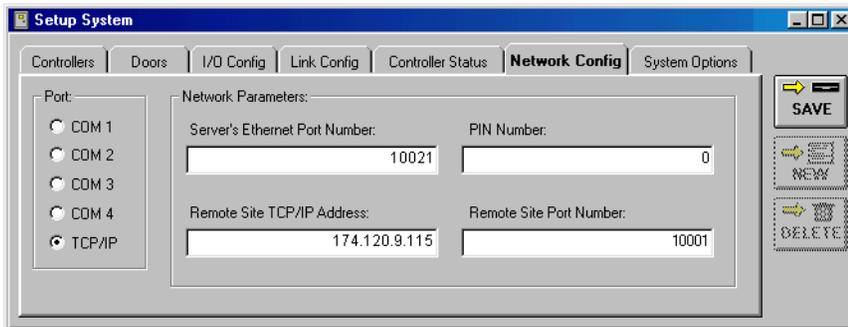

Figure 36: *Doors* TCP/IP Settings
1. Check the IP address and port number (see Figure 36).